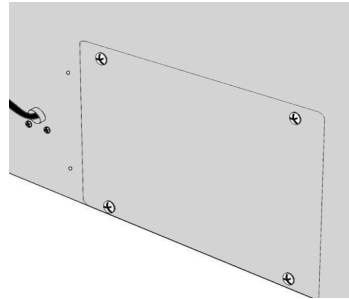

Figure 10
- Put plate in position and put in 4 screws from step 7 (see Figure 10).